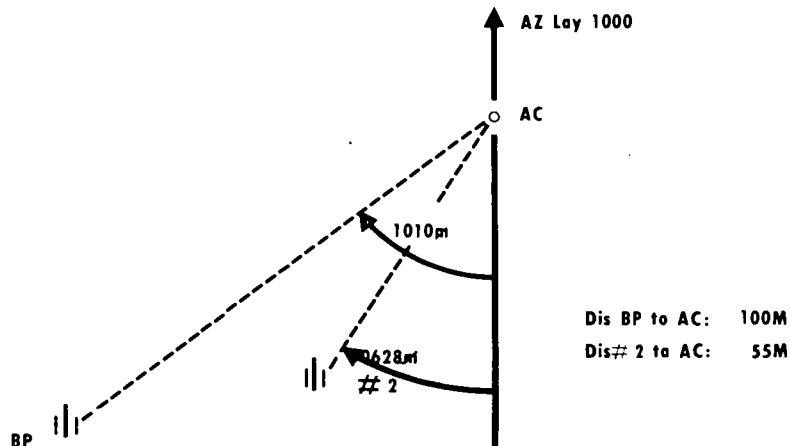
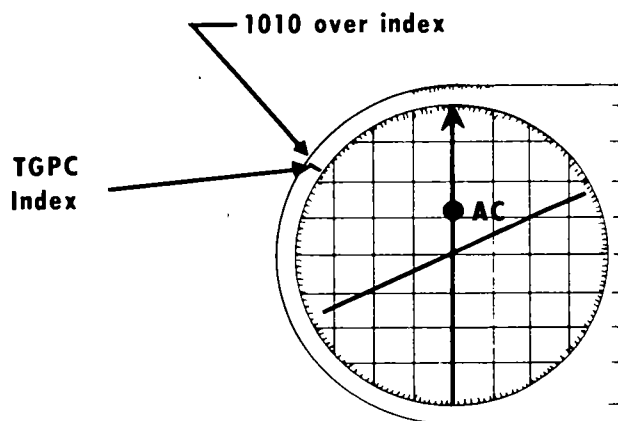

Figure E-2. Sample problem.
Figure E-3. Direction from BP to AC.
a. *Given:* Figure E-2.
(1) Step 1. Construct the TGPC index. Rotate the transparent disk until 1000 (azimuth of lay) in the outer (black) numbers is over the red arrow. Place the TGPC index opposite the (black) zero on the outer scale.
(2) Step 2. Orient the plotting board in the direction from BP to the AC. Rotate the disk until 1010 (LAY DF as in para E-3 above) is over the TGPC index (fig E-3).